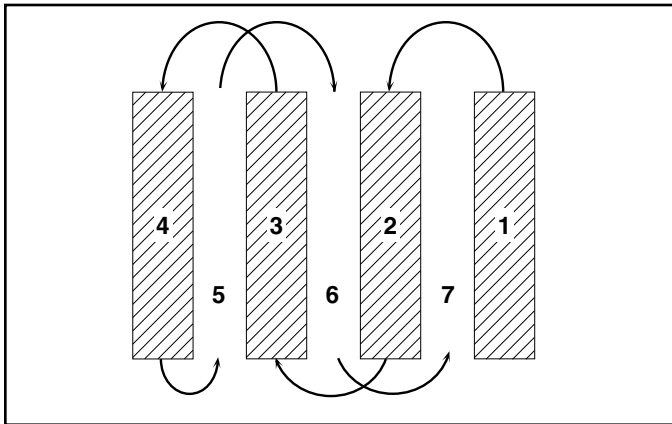

FIG. 15
- You will find tilling much easier if you leave a row un-tilled between passes. Then go back between tilled rows. (See Fig. 15) There are two reasons for doing this. First, wide turns are much easier to negotiate than about-faces. Second, the tiller won't be pulling itself, and you, toward the row next to it.